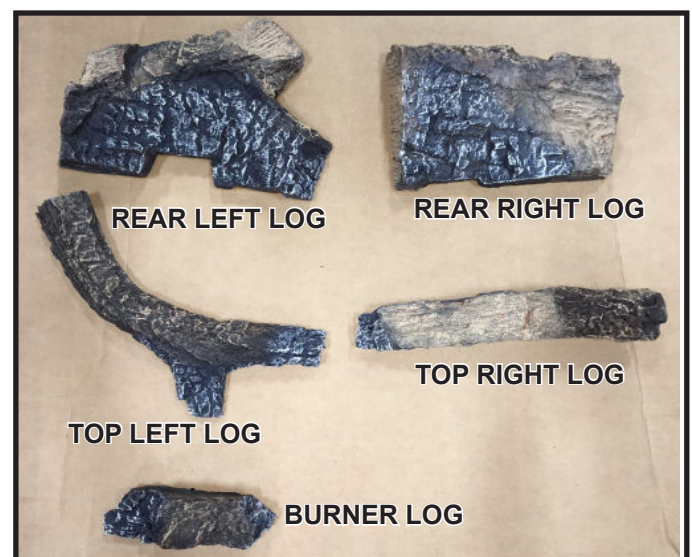

Figure 3. Log Set Components
1. Remove large rear left log from the packaging and install the log by locating it on the back left log pin(s). The left side of the log will reside within the indentation in the left hearth component. See Figure 3.